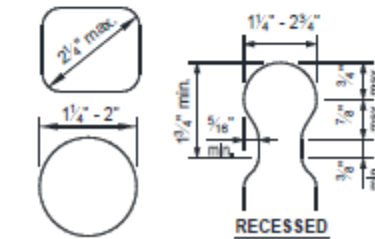

FIGURE 43: HANDRAIL GRASPABILITY
- Handrails shall be attached to a stair guard or exterior wall acting as a barrier as shown in see FIGURE 43.